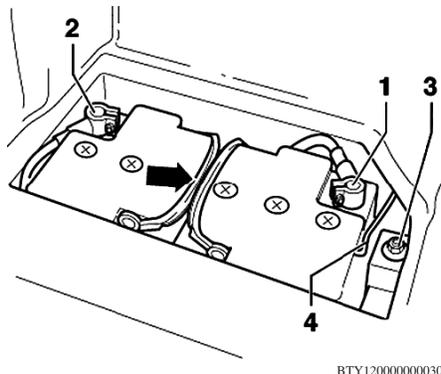

Fig. 1 Battery removal
5. Remove ground cable from floor covering by loosening hex nut, Fig. 1.
6. Disconnect battery ground strap from battery terminal (1), Fig. 1.
7. Disconnect positive battery cable from positive battery terminal (2), Fig. 1.
8. Separate hose connection (4) from battery, Fig. 1.
9. Remove hex screw (3), Fig. 1.
11. Lift battery with both handle straps (arrow) out of trunk, Fig. 1.
3. Install hose (4) to battery, Fig. 1.
4. Connect positive battery cable to positive battery terminal (2), Fig. 1.
5. Connect battery ground strap to battery terminal (1), Fig. 1.
6. Install ground cable to floor covering, Fig. 1.